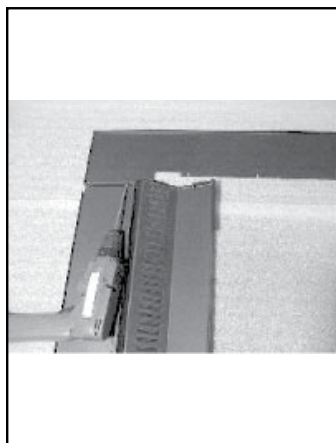

Figure 25.4
5. Align top panel to side panel setting clearance hole over screw head in side panel/curtain assembly. Install (2) 8-32 x 3/8 inch screws through holes in side panel into top panel (**Figure 25.4**). Complete for both sides.